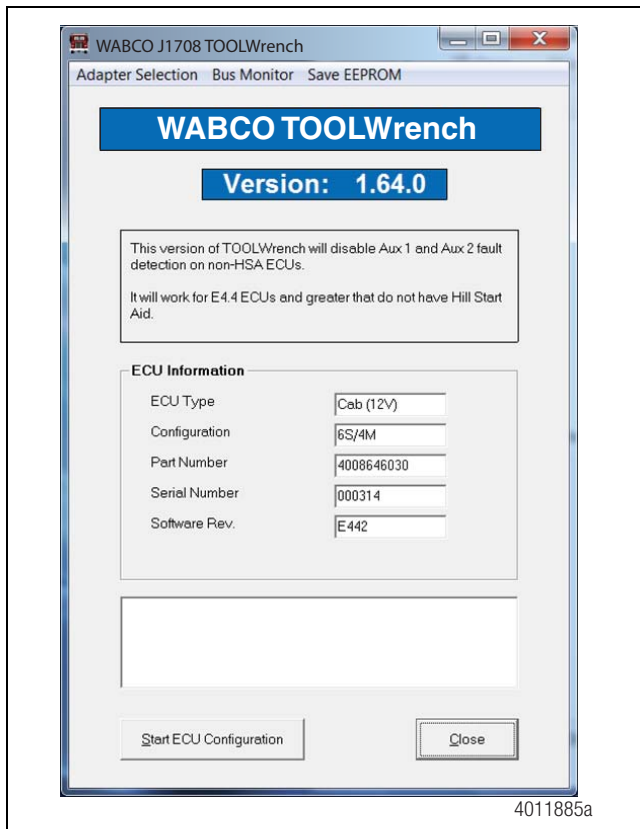

Figure 5
- Click on the Start ECU Configuration button. Figure 5.